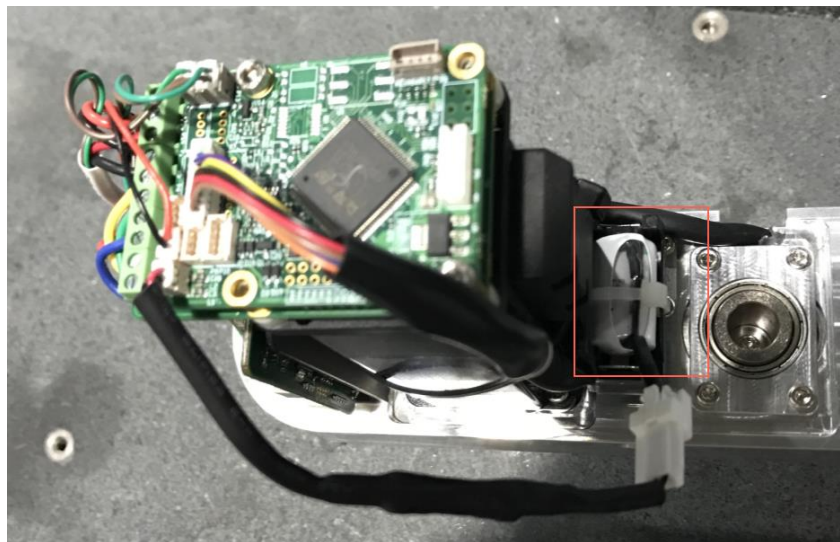

Figure 7.17 Put battery into battery holder
- Step 8** Put the standby battery into the battery holder as shown in Figure 7.17 and cut off the redundant wire tie.